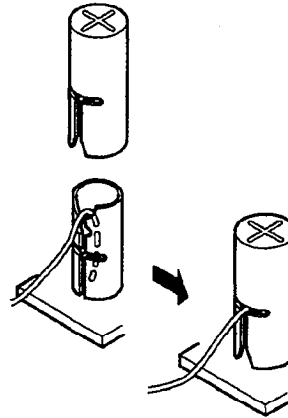

Figure 4-45 Attaching Cables to the ADA-U Unit
3. Remove the cap on the adapter terminal to expose the metal receptacle. Push the cable in the applicable receptacle and replace the cap. Be sure to line up the slot on the cap with the slot on the metal receptacle to ensure proper contact. Refer to Figure 4-45 Attaching Cables to the ADA-U Unit.